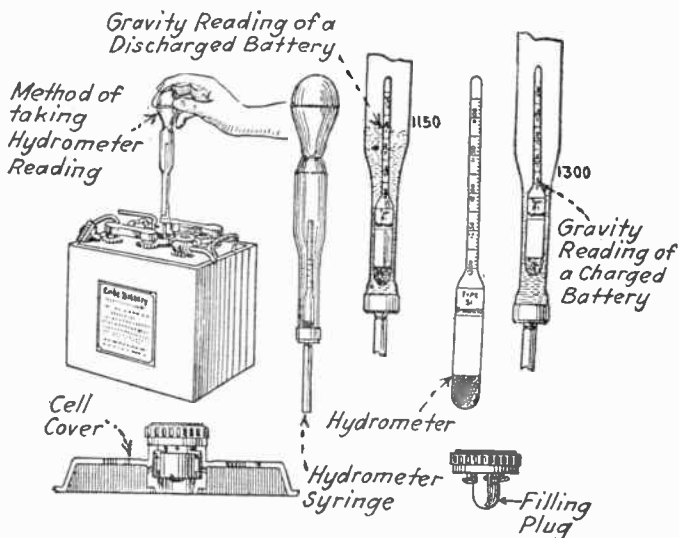

FIG. 57.—Hydrometer.
*Ans.* Figure 57 illustrates a hydrometer used for determining the specific gravity of storage cells.